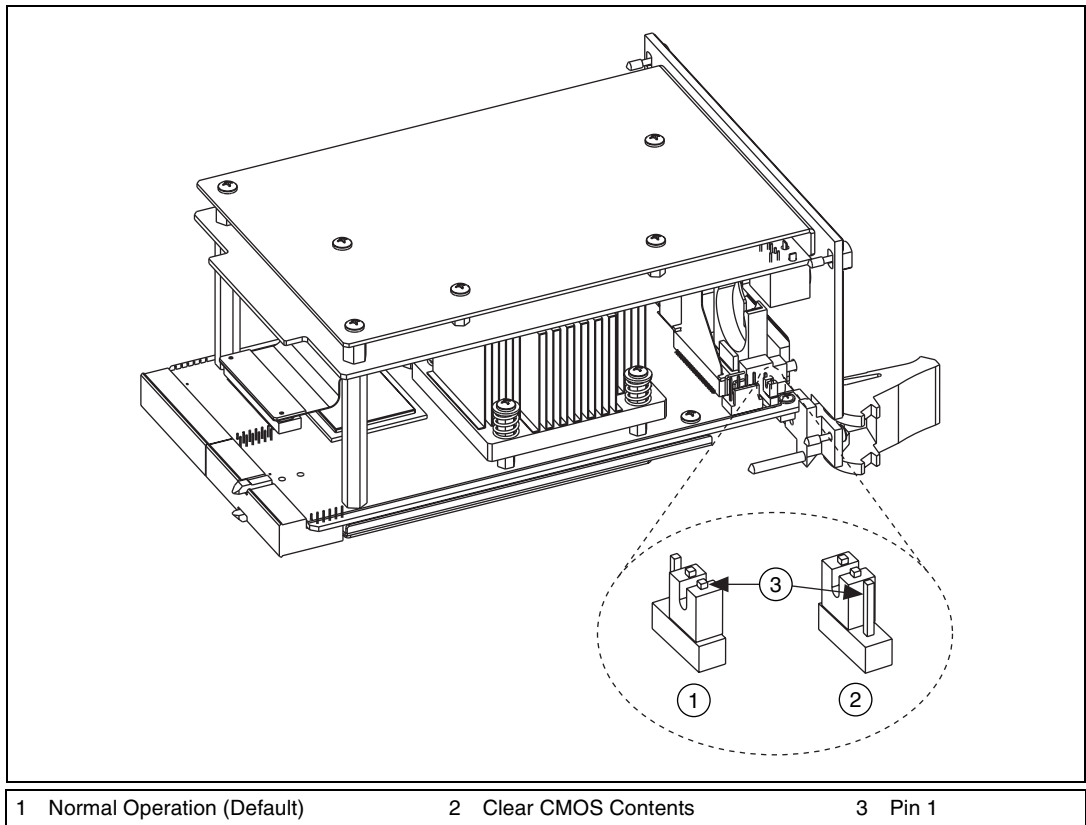

Figure 2-3. Clearing the CMOS Contents
3. Move the jumper on W1 from pins 1-2 to pins 2-3, as shown in Figure 2-3.